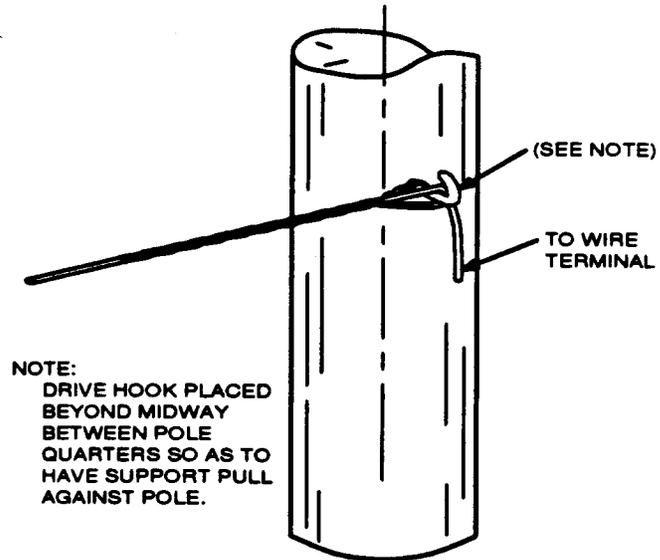

Figure 3. Wire Dead Ended Without a Guy
- 6.02** Attachments at dead-end poles are made with the dead-end support as shown in Figures 3 and 4.